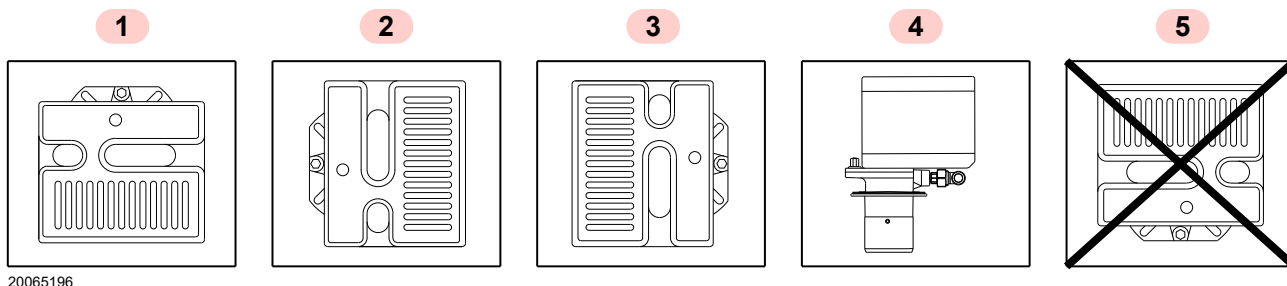

Fig. 10
- The burner is designed to operate only in positions **1, 2, 3** and **4** (Fig. 10).